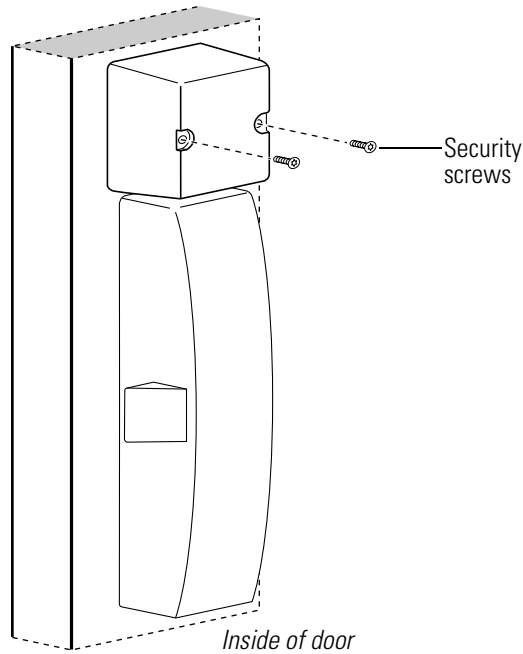

Figure 11.7 Removing and reinstalling the battery cover on the battery bracket
1. Use a T15 TORX driver to remove the security screws from the battery cover. See Figure 11.7.
5. Use a T15 TORX bit driver to secure the battery compartment cover with the security screws. Tighten firmly. See Figure 11.7.